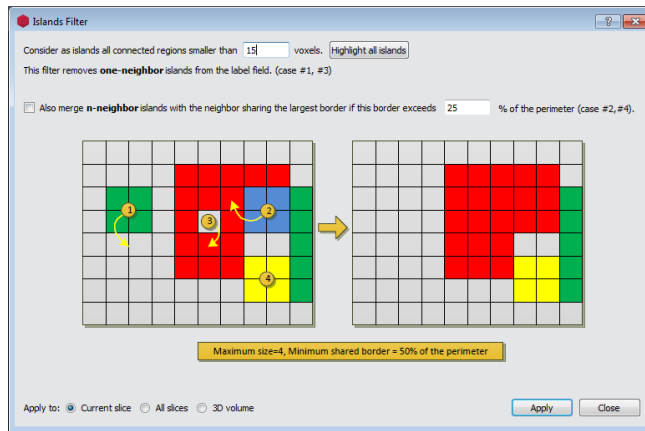

Figure 5.6: Islands filter dialog.
- In the *Segmentation* menu, select *Remove islands...* (see Figure 5.6).